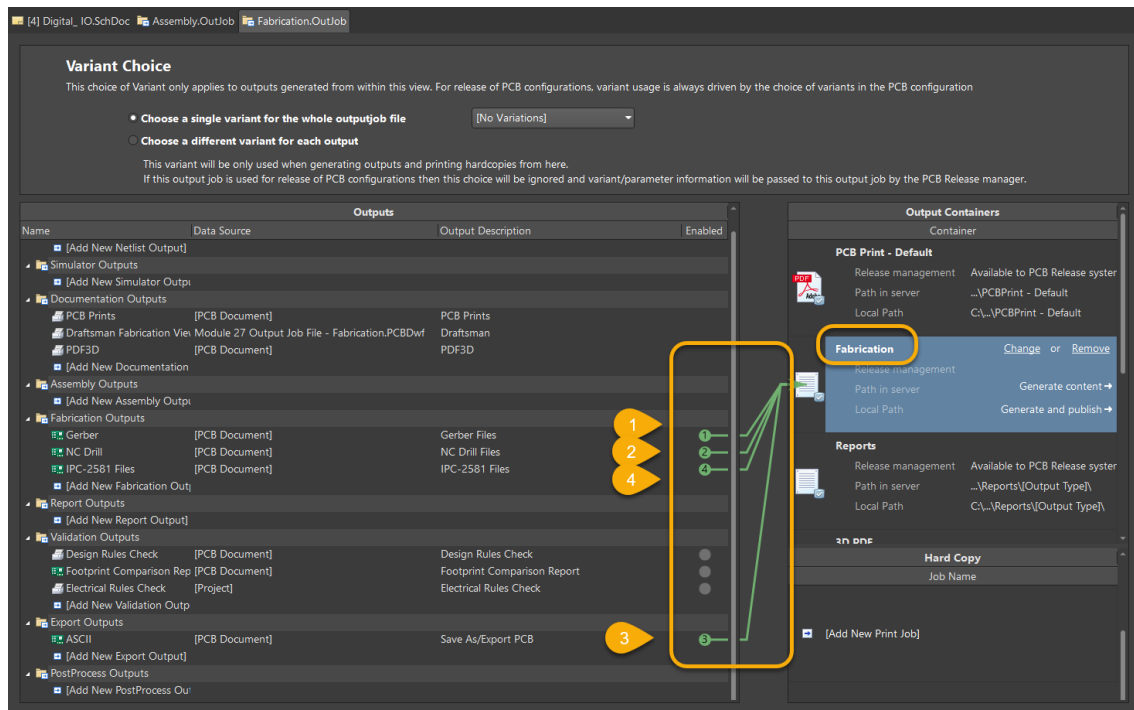

Figure 8. Output Job File with outputs linked to PDF container
25. In the *Output Containers* section on the right side of the Output Job file, click on **Fabrication** to select it, as shown in Figure 8.
26. Check the radio buttons in the *Enabled* column and the connections from the radio buttons to the Output Container. This is the configuration to map the outputs to a container in a specific order, shown in Figure 8.